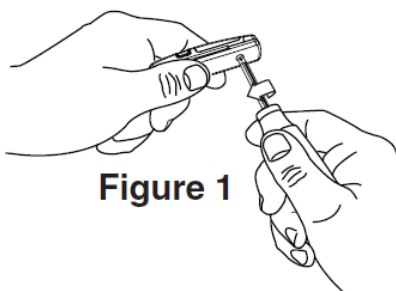

Figure 1
1. Use a Phillips head screwdriver to loosen the screw. Leave the screw engaged. (Figure 1)